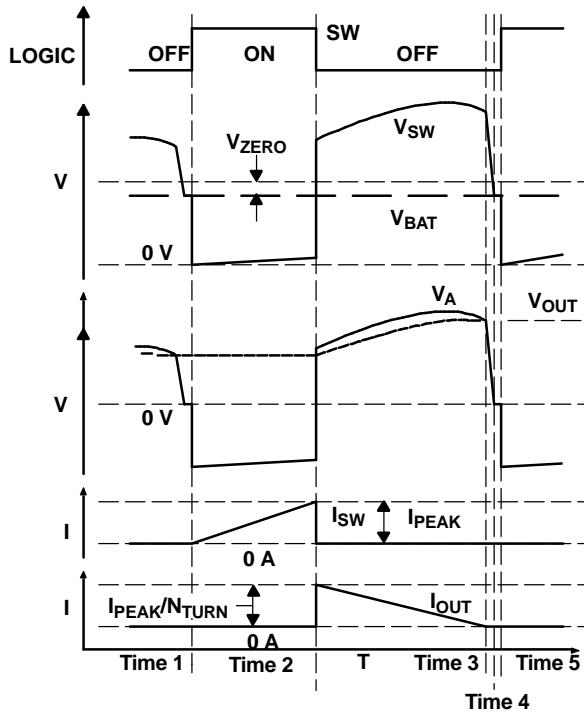
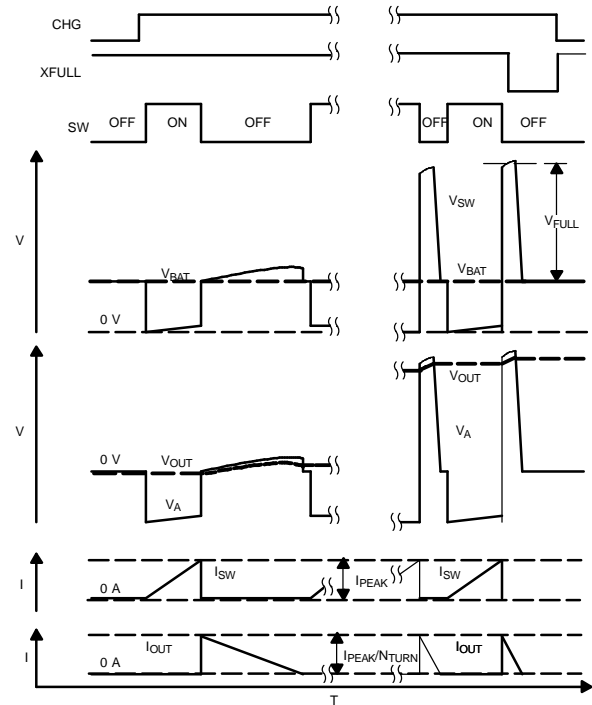

Figure 3. Timing Diagram for One Switch Cycle
Figure 4. Timing Diagram for Beginning/Ending Cycles
- U2: Detects when zero energy remains in the transformer for the SW-ON timing. This is used to determine the timing when to switch the internal FET ON. U2 senses the kickback voltage at the SW pin. The internal switch is turned on when $V_{(SW)}$ is less than VBAT (Time 5 in Figure 3).
- U3: Detects the peak current for SW-OFF timing. U3 senses the primary-side current ($I_{(SW)}$) flowing through the internal FET switch from SW to PGND. SW turns OFF when $I_{(SW)}$ exceeds the target current set by the I_PEAK pin. (Time 2 in Figure 3)
A charge cycle starts when the CHG pin transitions from a logic low to high. The SW turns ON and $I_{(SW)}$ increases linearly through the primary of the flyback transformer (Time 1 to Time 2 in Figure 3). SW is turned off once $I_{(SW)}$ exceeds the target current (I_PEAK, Time 2 in Figure 3).
When SW turns OFF, the magnetic energy in the transformer starts discharging and the output voltage increases forward biases the output diode. As a result, the kickback voltage, now present at the SW pin, increases (Time 2 to Time 3 in Figure 3). When almost all the energy in the transformer is discharged, the transformer cannot maintain the secondary current; so, the secondary voltage and the kickback voltage both start to collapse (Time 3 in Figure 3). After rectification stops, the small energy left in the transformer is released via parasitic paths, and the kickback voltage reaches zero (Time 3 to Time 4 in Figure 4). During this period, comparator U2 senses when $(V_{SW} - V_{BAT})$ dips from VZERO (Time 5 in Figure 4) and makes SW turn ON for the next cycle.
1. Use an external controller, and treat I_PEAK as the logic input pin. This method produces only the two values of peak current, $I_{(PEAK1)}$ and $I_{(PEAK2)}$, as shown in Figure 3